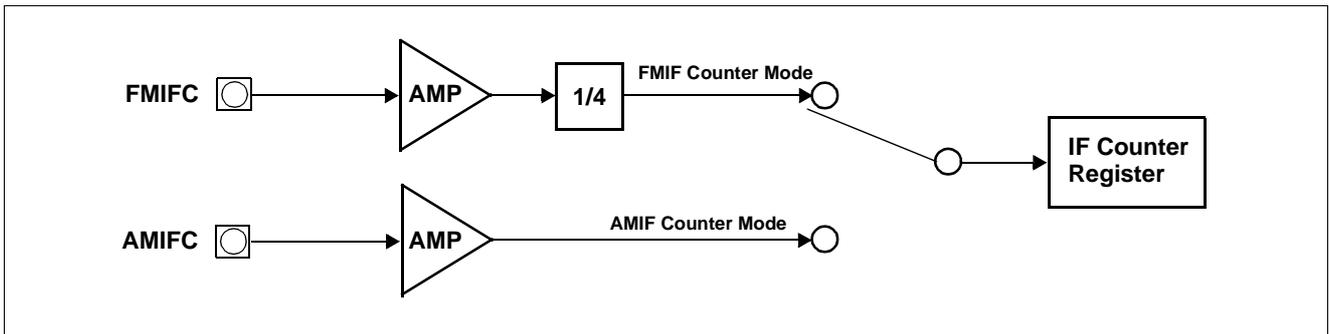

Figure 4-32 Input Pin and Mode Selection Block Diagram
- (1) Select an input pin, mode and gate time using the IF counter mode register. Figure 4-32 shows a block that selects an input pin and mode.
- (2) Set IFCCLR bit of the IF counter mode register to 1, and clears the data of the IF counter register.
- (3) Set IFCST of the IF counter mode register to 1.
- (4) The gate is opened only for the set gate time since 1KHz internal signal has risen after IFCST was set. If the gate time is set to be opened, the gate is opened as soon as it has been specified to be opened. IFCJR of the IF counter gate judge register is automatically set to 1 as soon as IFCST has been set to 1. When the